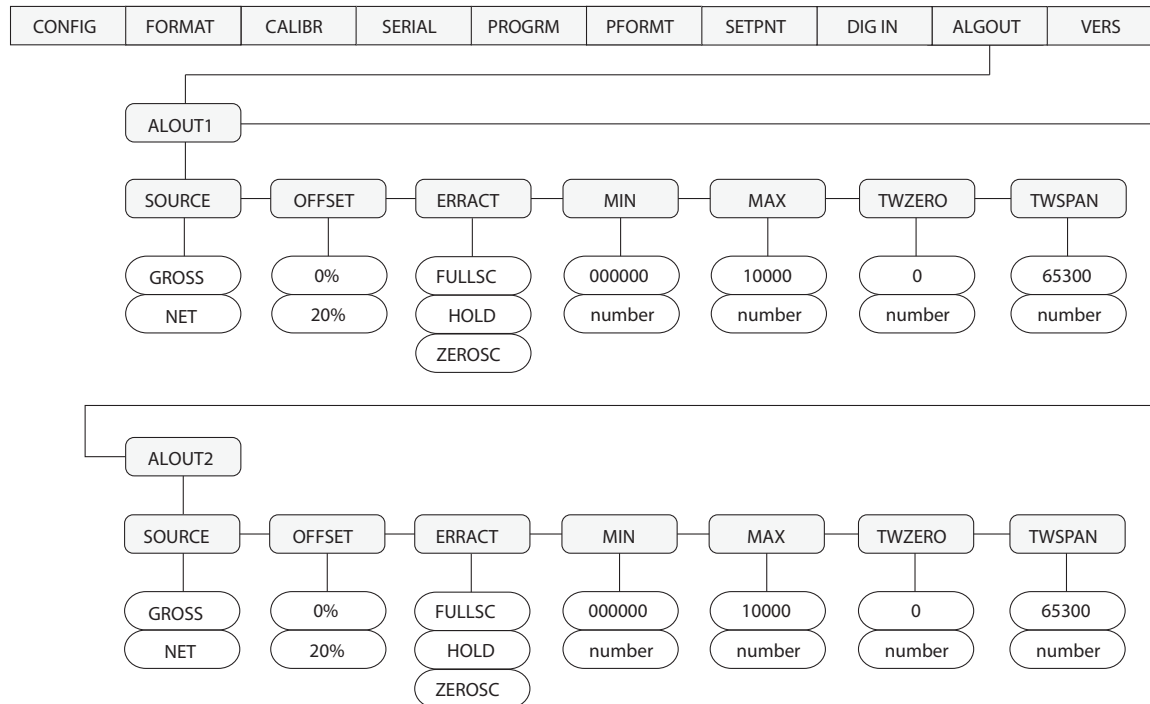

Figure 7-3. Analog Output Menu
- Enter setup mode and go to the ALGOUT menu (see Figure 7-3). See Table 8-7 on page 51 for information on switch settings.